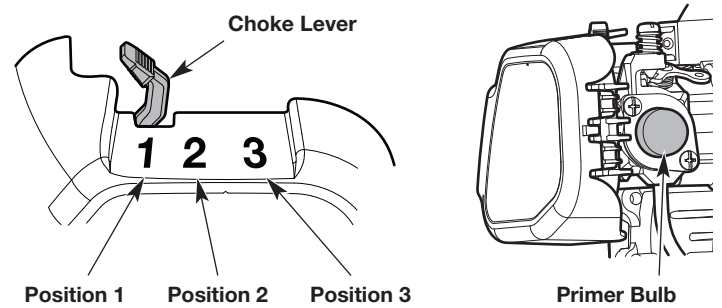

Fig. 10
1. Slowly press and release the primer bulb **10 times** (Fig. 10). If fuel cannot be seen in the primer bulb, press and release the primer bulb until fuel is visible.
2. Move the choke lever to **Position 1** (Fig. 10).
6. Move the choke lever to **Position 2** (Fig. 10).
9. Move the choke lever to **Position 3** (Fig. 10). Allow the engine to warm up for an additional 60 seconds. The unit may be used during this time.
**IF...** the engine hesitates, return the choke lever to **Position 2** (Fig. 10) and continue the warm-up.